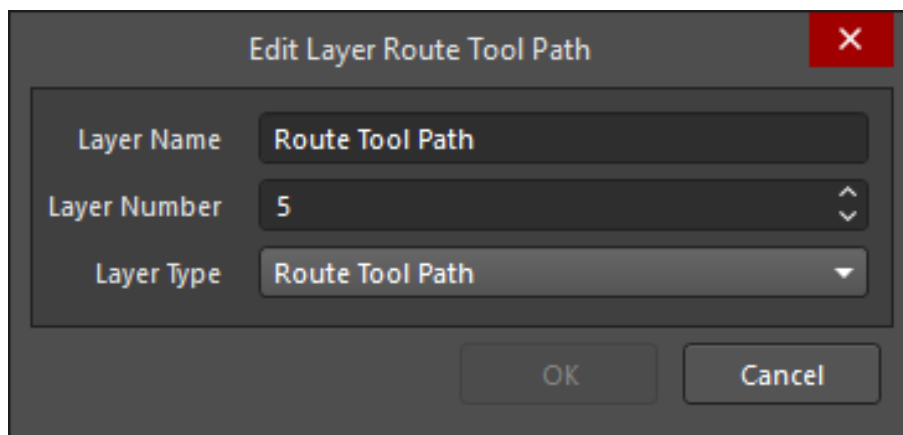

Figure 7. Mechanical Layer with a Route Tool Path type information
22. The *Layer Type* for this layer is set to **Route Tool Path**, as shown in Figure 7.